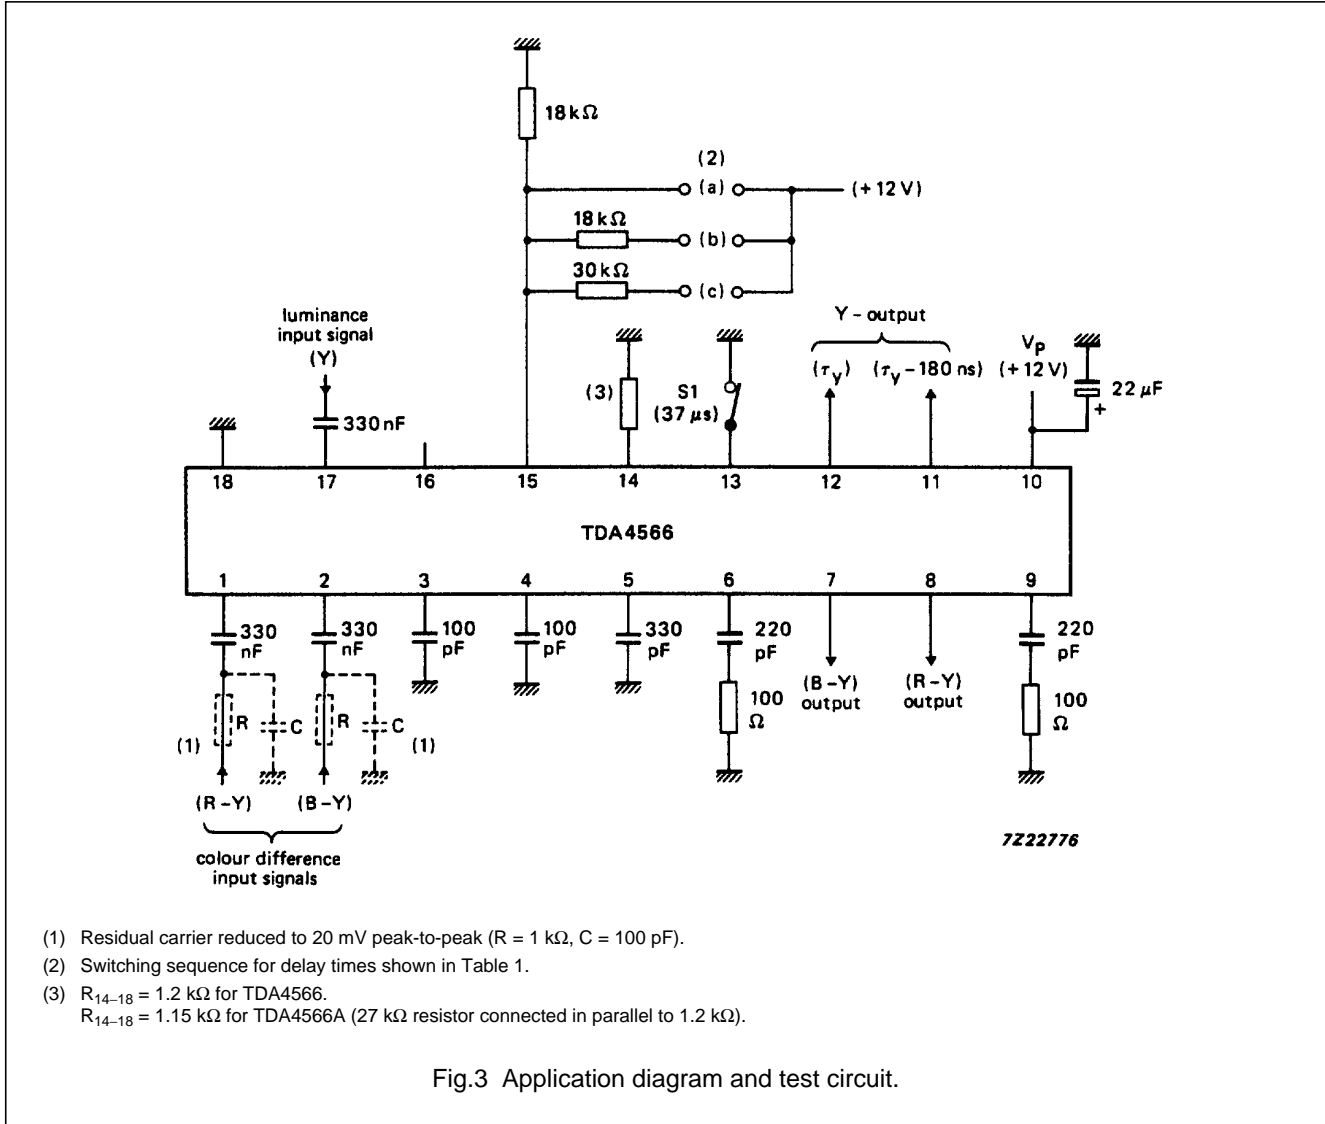

Fig.3 Application diagram and test circuit.
$V_P = V_{10-18} = 12\text{ V}$; $T_{\text{amb}} = 25\text{ °C}$; measured in application circuit Fig.3; unless otherwise specified
1. Output signal transient time measured with $C_{6-18} = C_{9-18} = 220 \text{ pF}$ without resistor (see Fig. 3).